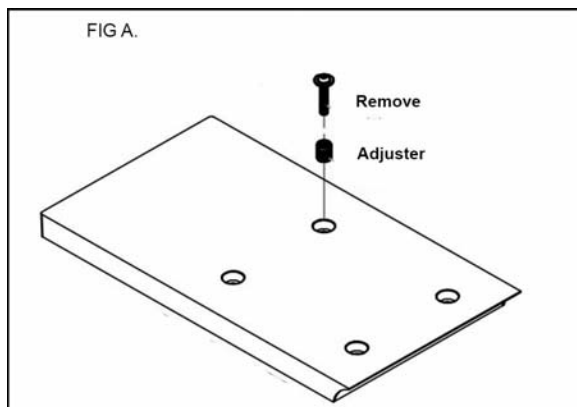

Figure 1
4. If the outfeed table is not aligned with the cutter head, detach or loosen and remove the table screws and washers to get a hold of the leveling adjusters. **See Figure 1.**